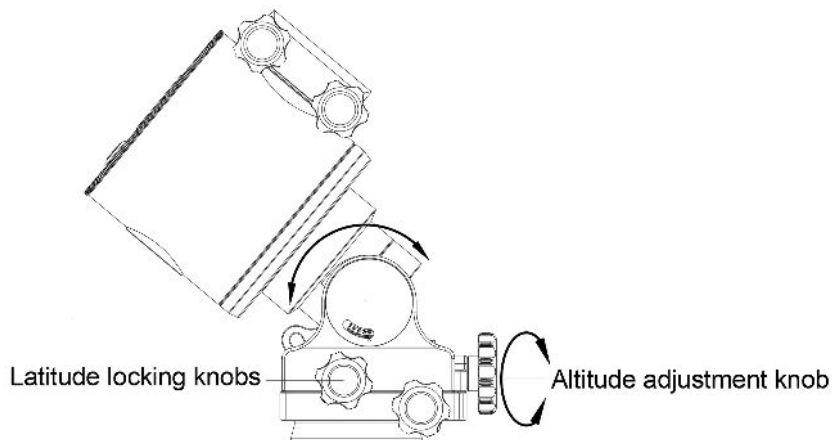

Fig. 2
1. For use in equatorial (**EQ**) mode, loosen slightly the two Latitude locking knobs and turn the Latitude adjustment knob until the arrow on the latitude scale of the mount matches the latitude of your observing site. Lock the two Latitude locking knobs. (Fig.2)